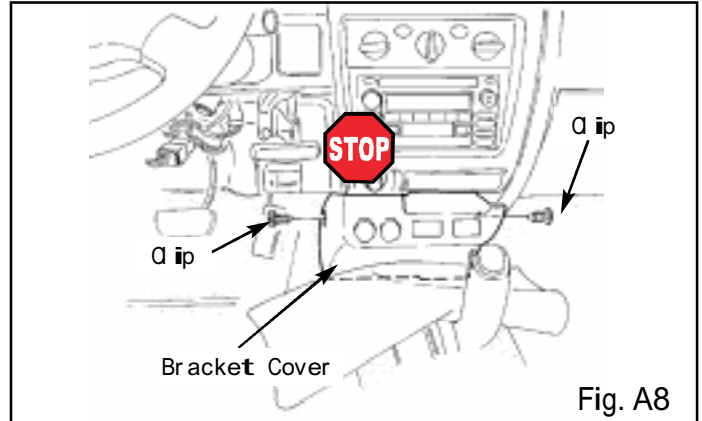

Fig. A8
9. Loosen the bracket cover, but do not remove the cover. (Fig. A8)